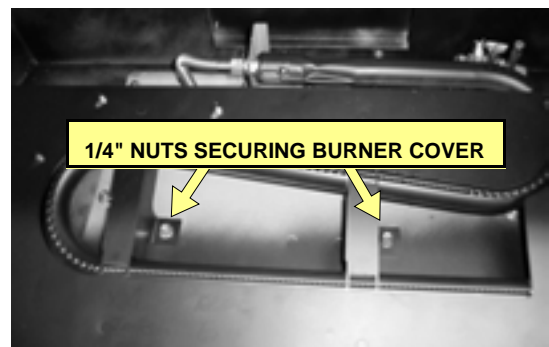

Figure F-2
4. Place the burner cover assembly onto the board, properly seating the burner tube over the orifice and aligning the holes in the mounting brackets attached to the cover to the mounting studs on the millivolt board. Secure with the (2) nuts previously removed. Figure F-2.